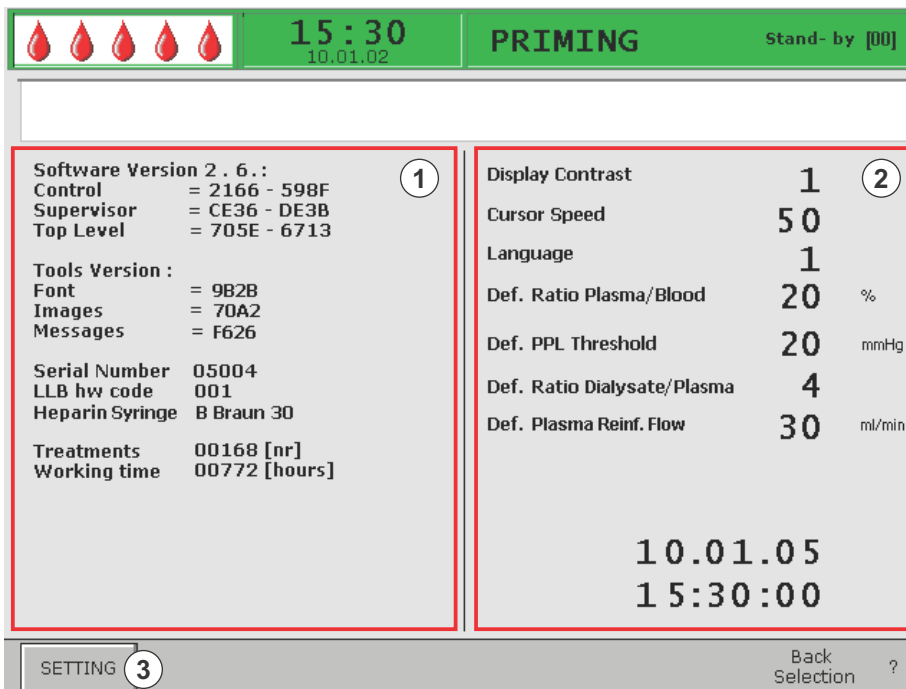

Fig. 3-4 Settings screen
- ↗ The *Settings* screen (Fig. 3-4) appears, indicating machine data on left side (①) and default parameter settings on right side (②).